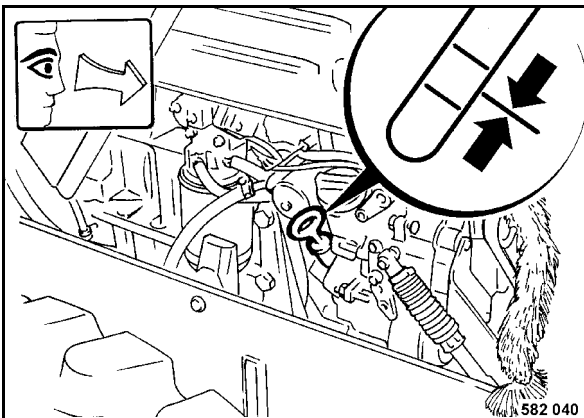

Fig. 57
- Pull the dipstick (Fig. 57) out, wipe it off with a lint-free, clean cloth and reinsert it until it bottoms.